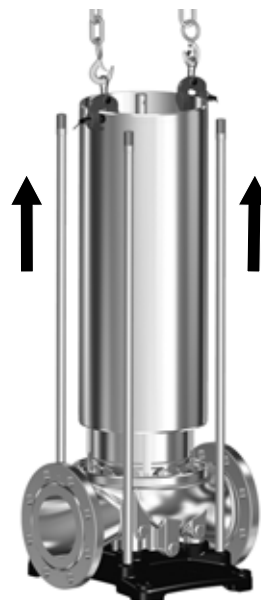

Fig. 1 Service tool N fitted on sleeve (55)
3. Loosen the three set screws (113) of the shaft seal (105). Note that the set screws must be loosened no more than 1/4 turn.
5. Carefully lift the shaft seal (105) off the shaft (51). Note: Shaft seals fitted on pumps with $\varnothing 28$ and $\varnothing 36$ pump shafts can be fitted with new wear parts. See section 6. *Renewing shaft-seal wear parts*.
7. Remove nuts (36) and washers (66a).
9. Remove the pump head cover (2). It may be necessary to loosen it from the sleeve (55) using a plastic hammer.
10. Remove the o-ring (37) from the pump head cover (2).
11. Pull out the outlet part (3b) from the pump head cover (2).
12. CR pumps only: Remove the four screws (60) and the brackets (2c) from the pump head cover (2).
13. Fit service tool N on the pump sleeve (55). See fig. 1.